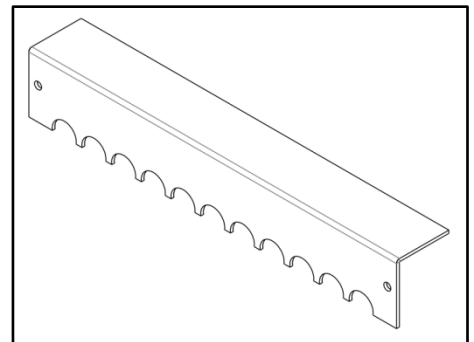

Figure 2. Output Terminal Block Cover
The Main Shelf and the Expansion Shelf each have a clear protective cover mounted over the DC Output terminal block (see **Figure 2**). The cover is held in place by 2 mounting screws for easy access for cable installation and other maintenance. When work is completed or the shelf will be left unattended, always replace the protective covers over the terminal blocks.
1. The AC Power Deratings in **Figure 2** applies equally to the Expansion Shelf and the Main Shelf.